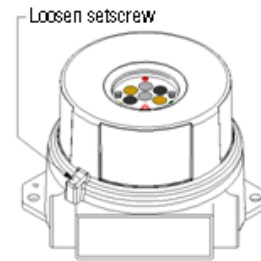

Figure 2-6
1. Loosen the set screw on the enclosure lid (see *Figure 2-6*).